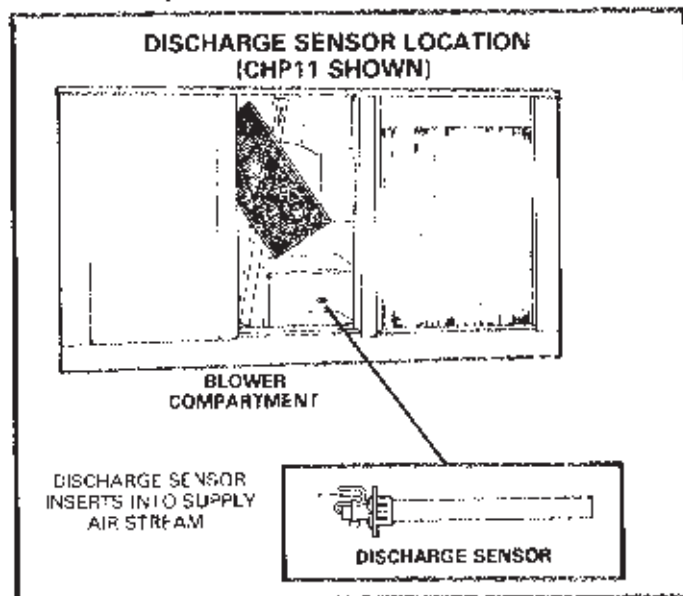

FIGURE 3
- 1 - Figure 3 shows the discharge sensor location in a typical CHP11 unit.